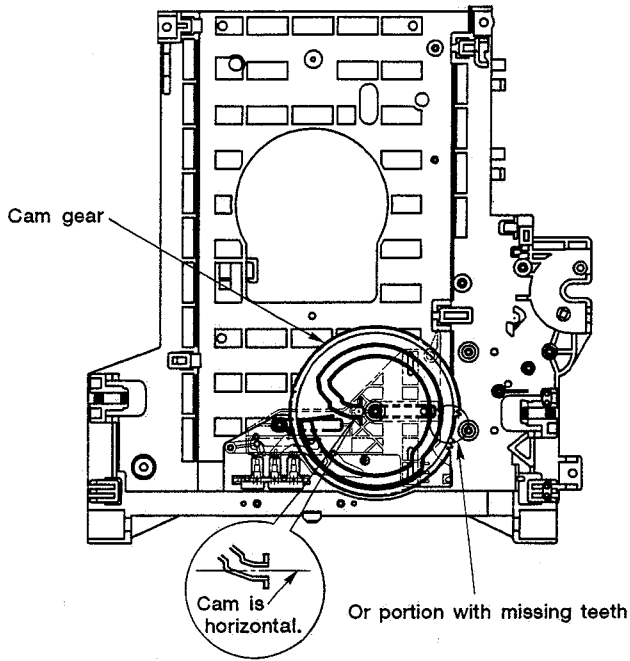

Fig. 1-10
- Slightly turn the cam gear ⑥ in a counterclockwise direction until the cam gear reaches the position shown in Fig. 1-10.